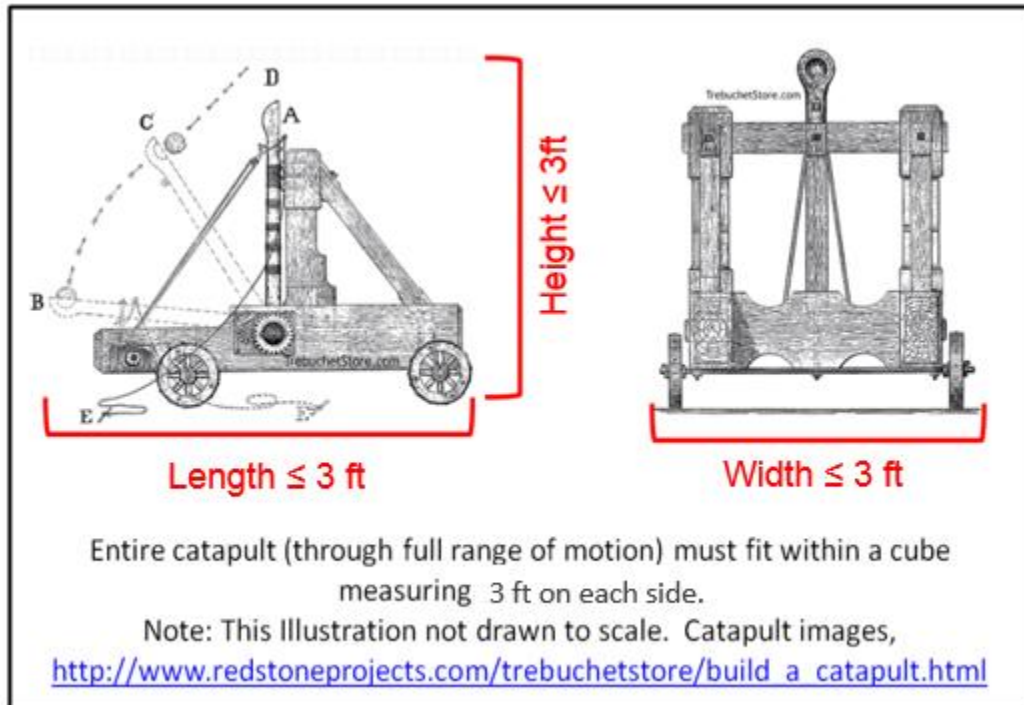

Figure 3: Catapult Dimensions
- a. Entire catapult (through its full range of motion) must fit within a 3ft x 3ft x 3ft cube (Figure 3: Catapult Dimensions).